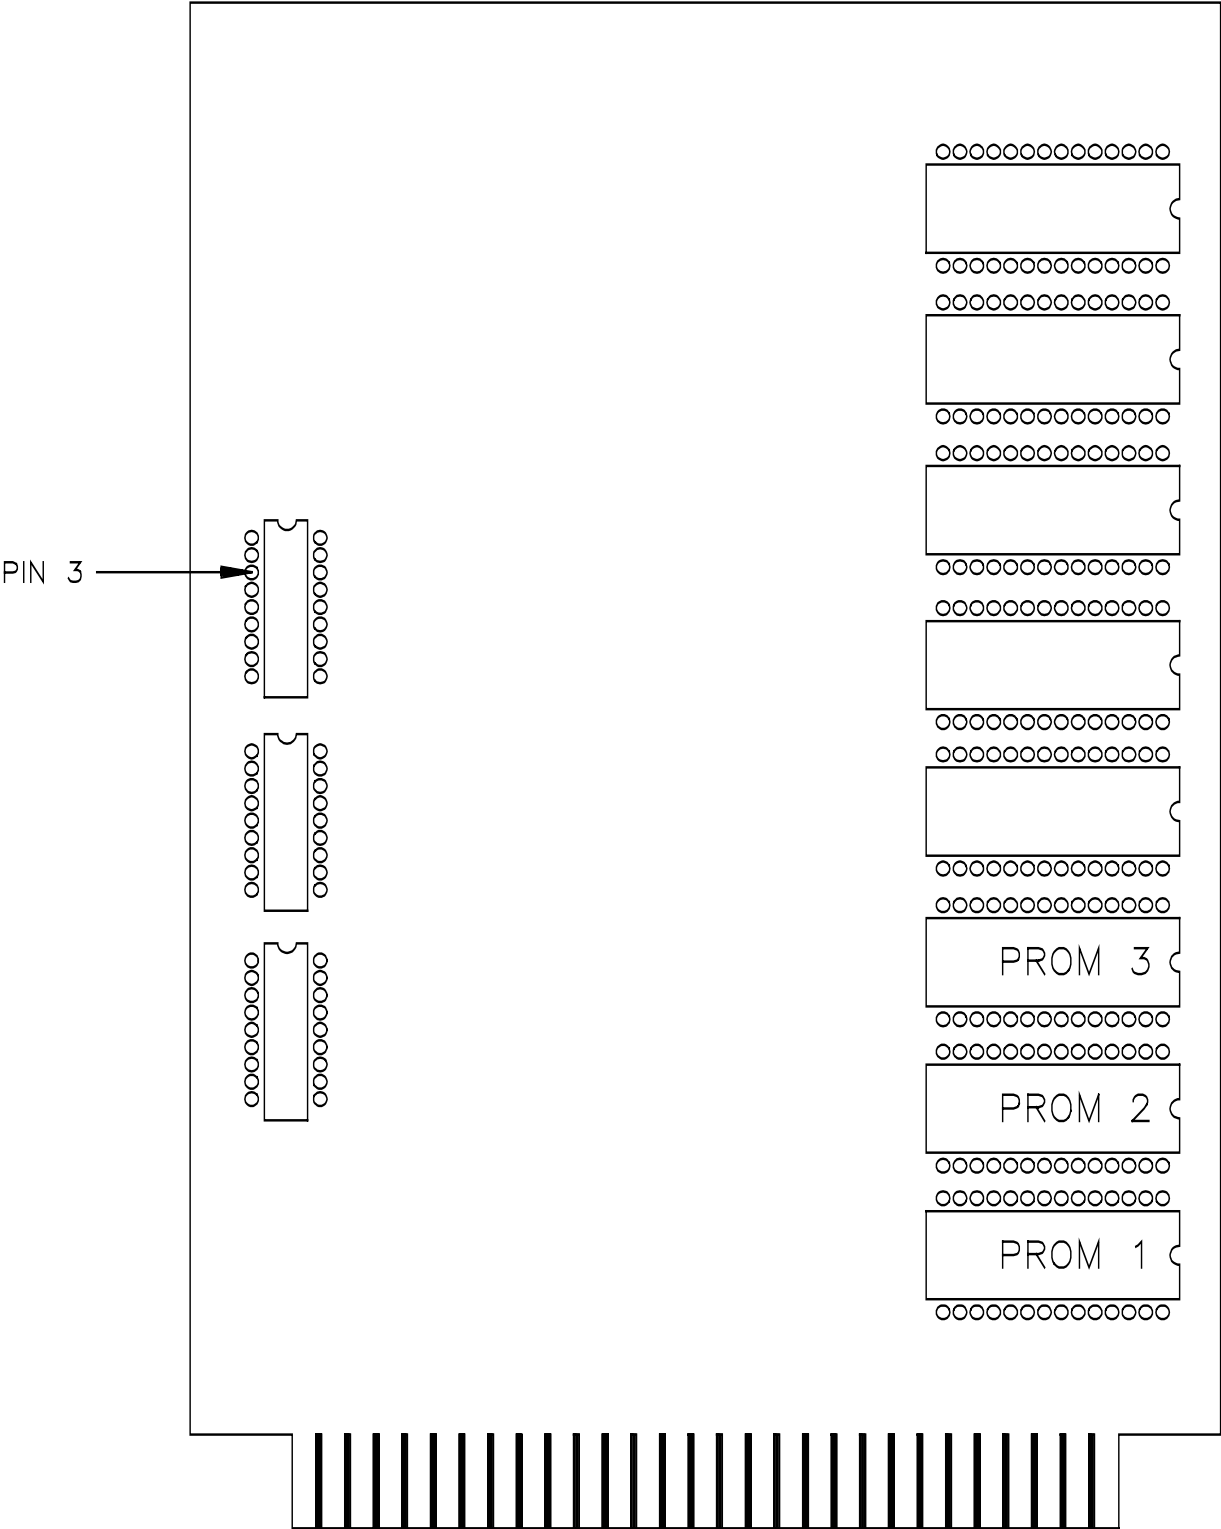

FIGURE D.2-2. CR7X CPU Card
2. Set up the frequency counter to measure period and connect to pin 3 of the Integrated Circuit shown at Location B16 on Figure D.2-2. Connect the ground lead to the negative (flat) side of the 10 μ F capacitor at location F21. Adjust the variable capacitor at location E21 on the same figure for a period of 49,999.00 microseconds (20 ppm fast) or 50,000.00 microseconds (exactly on).